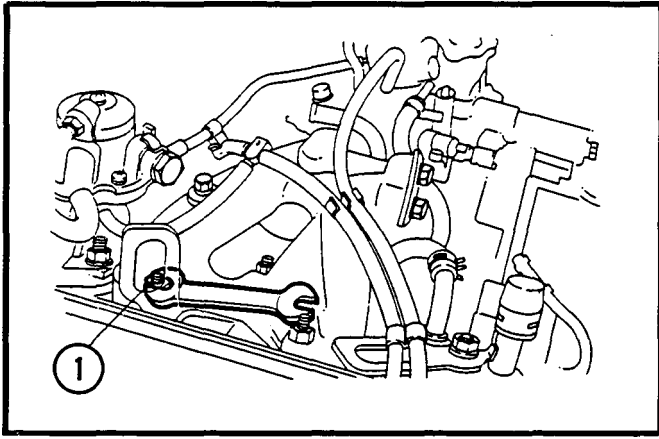

Figure 6.
1. Loosen the bleeder plug (located near the fuel pump on the intake manifold). See Figure 6.